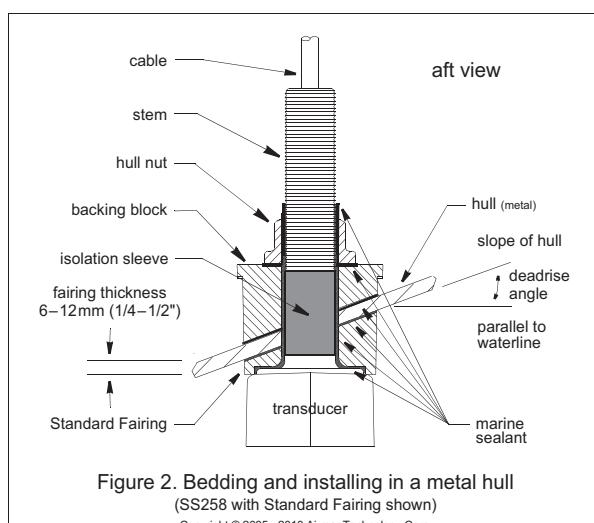
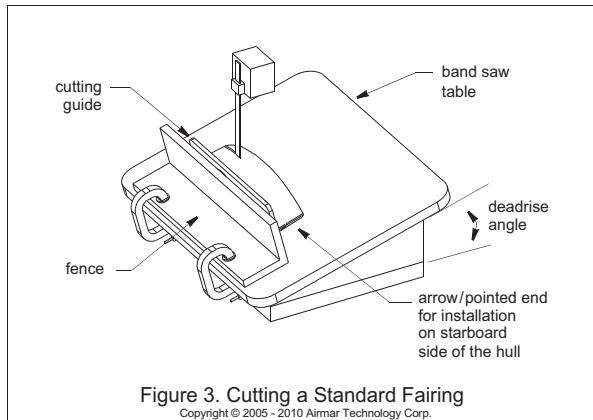

Figure 2. Bedding and installing in a metal hull (SS258 with Standard Fairing shown)
Figure 3. Cutting a Standard Fairing
1. Drill a 3mm or 1/8" pilot hole perpendicular to the waterline from inside the hull (see Figure 2). If there is a rib, strut, or other hull irregularity near the selected mounting location, drill from the outside.
1. Measure the deadrise angle of the hull at the selected location (see Figure 2).
2. Tilt the band saw table to the measured angle and secure the cutting fence (see Figure 3).
4. Adjust the cutting fence, so the fairing will be cut in about two equal parts (see Figure 3). *The section that will become the fairing must be between 6–12mm (1/4–1/2") at its thinnest dimension* (see Figure 2).
**Stainless steel transducer in a metal hull** —Be sure the isolation sleeve is between the transducer stem and the hull (see Figure 2). However, the isolation sleeve must be below the hull nut to prevent the sleeve from interfering with tightening the nut.